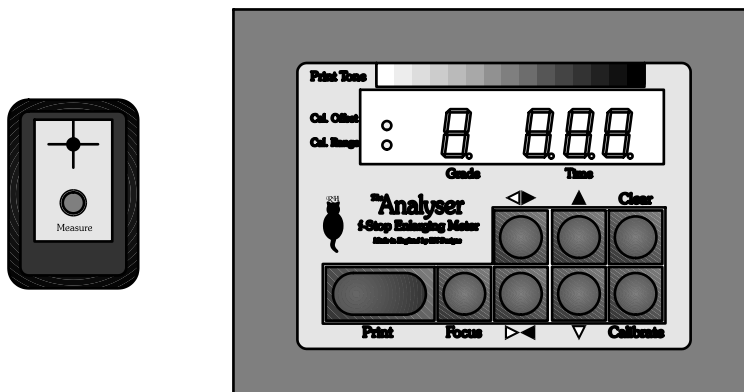

Fig.1. The Remote Sensor and Control Box Front Panel
To set up The Analyser, first follow the instructions in the Installation Guide on Page 32 of this booklet. After checking the installation, switch on at the rear. The display will light all segments, then show the paper set in use (e.g. PAP 1) and then display the default step-size followed by the initial grade (2) and exposure time (15.0). The safe-light should be on and the enlarger off. The front panel of the main unit and its display and controls are illustrated in Fig. 1. The remote
There are 8 buttons on the control box (refer to Fig.1):